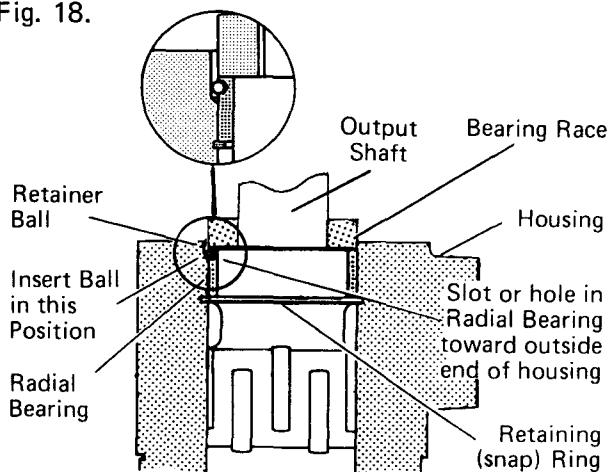

Figure 18
**28** Install radial bearing and ball. Replace ball the same way you removed it, see Fig. 18.
**29** Install bearing race on shaft, lift shaft slightly then push race and shaft in housing together. Bearing race should rotate freely when in position, see Fig. 18.